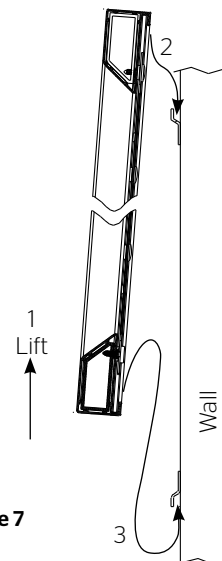

Figure 7
3. Attach the small wall bracket to the wall. Refer to Figure 7 for proper orientation. Do not tighten the screws completely. The bracket should slide up and down easily.
4. Position the screen with the attached surface onto the top wall bracket. Push down at the center of the bottom frame rail to hook onto the lower wall bracket. Refer to Figure 7.